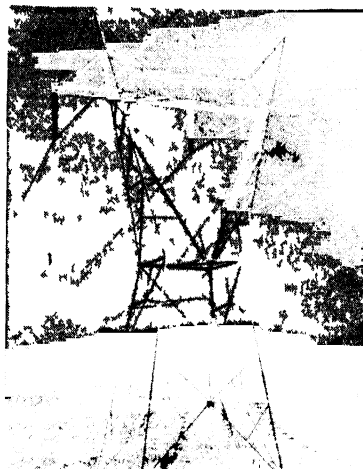

FIG 4-5 Four-legged rigid-type 230-kv
**Rigid Type and Flexible Type.** Towers are either of the rigid or the flexible type. The rigid tower is firm in all directions, whereas the flexible tower is free to deflect in the direction of the line. Rigid towers, in order to be rigid, must have three or more legs, but the flexible construction consists of only two legs. Figure 4-5 illustrates the four-legged rigid-tower type. Rigid towers can resist the same strain in all directions. Flexible towers can resist strain only transversely or across the line but have very little strength in the direction of the line. They will give or deflect if there is any unbalance in conductor pull; in fact, they depend largely upon the conductors to hold them in position. For this reason they have gone out of use.